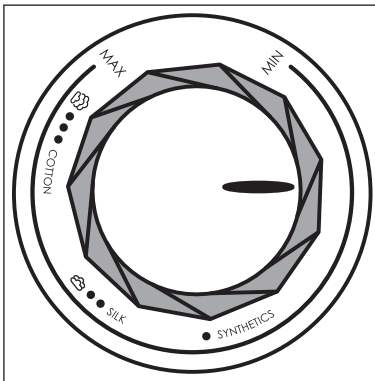

Fig. 2
- 3) Select the appropriate temperature setting using the temperature control **6** (see table below and fig. 2).